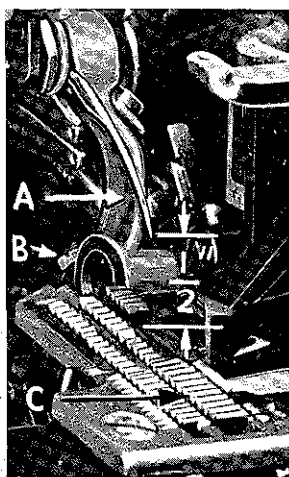

Fig. 3
With throat plate in position, needle should center in the front end of needle slot. When needle is at high position, needle point should be set $1/2$ inch above throat plate (Fig. 3). Move needle driving arm (A, Fig. 3) by loosening clamp screw (B). Remove throat plate.